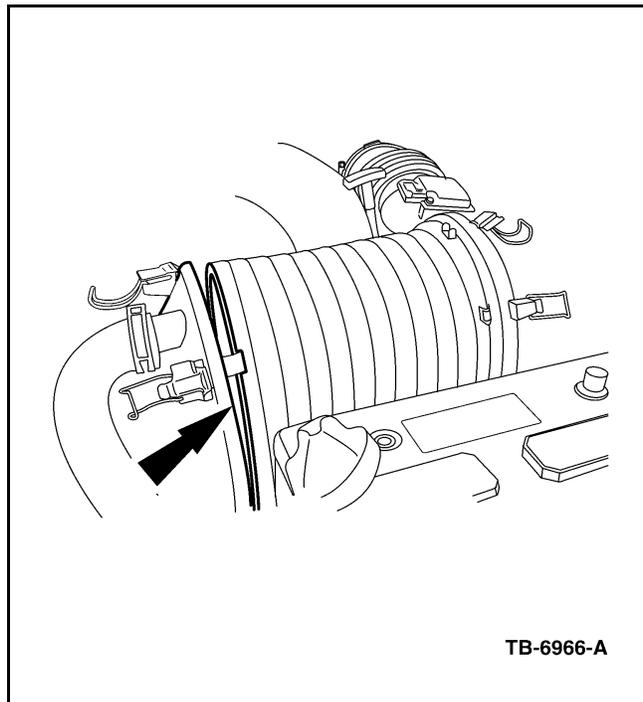

Figure 2 - Article 03-1-9
2. Lift inlet slightly, enough to disengage the 2 tabs on the bottom of the inlet cover from the 2 windows on bottom of the filter inlet, and push it forward toward front of vehicle as shown in Figures 2 and 3.